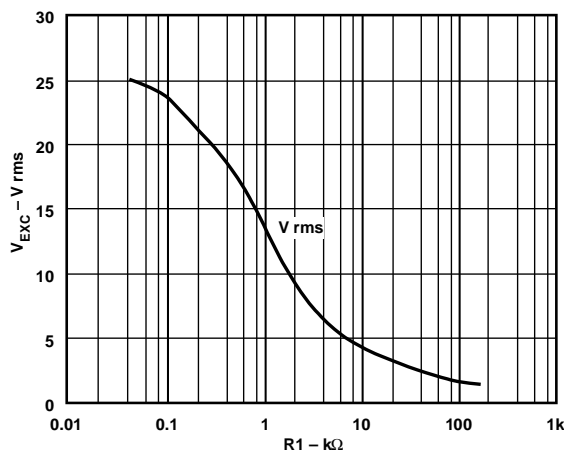

Figure 9. Excitation Voltage  $V_{EXC}$  vs.  $R1$
6. Referring to Figure 9, for  $V_S = \pm 15 \text{ V}$ , select the value of the amplitude determining component  $R1$  as shown by the curve in Figure 9.